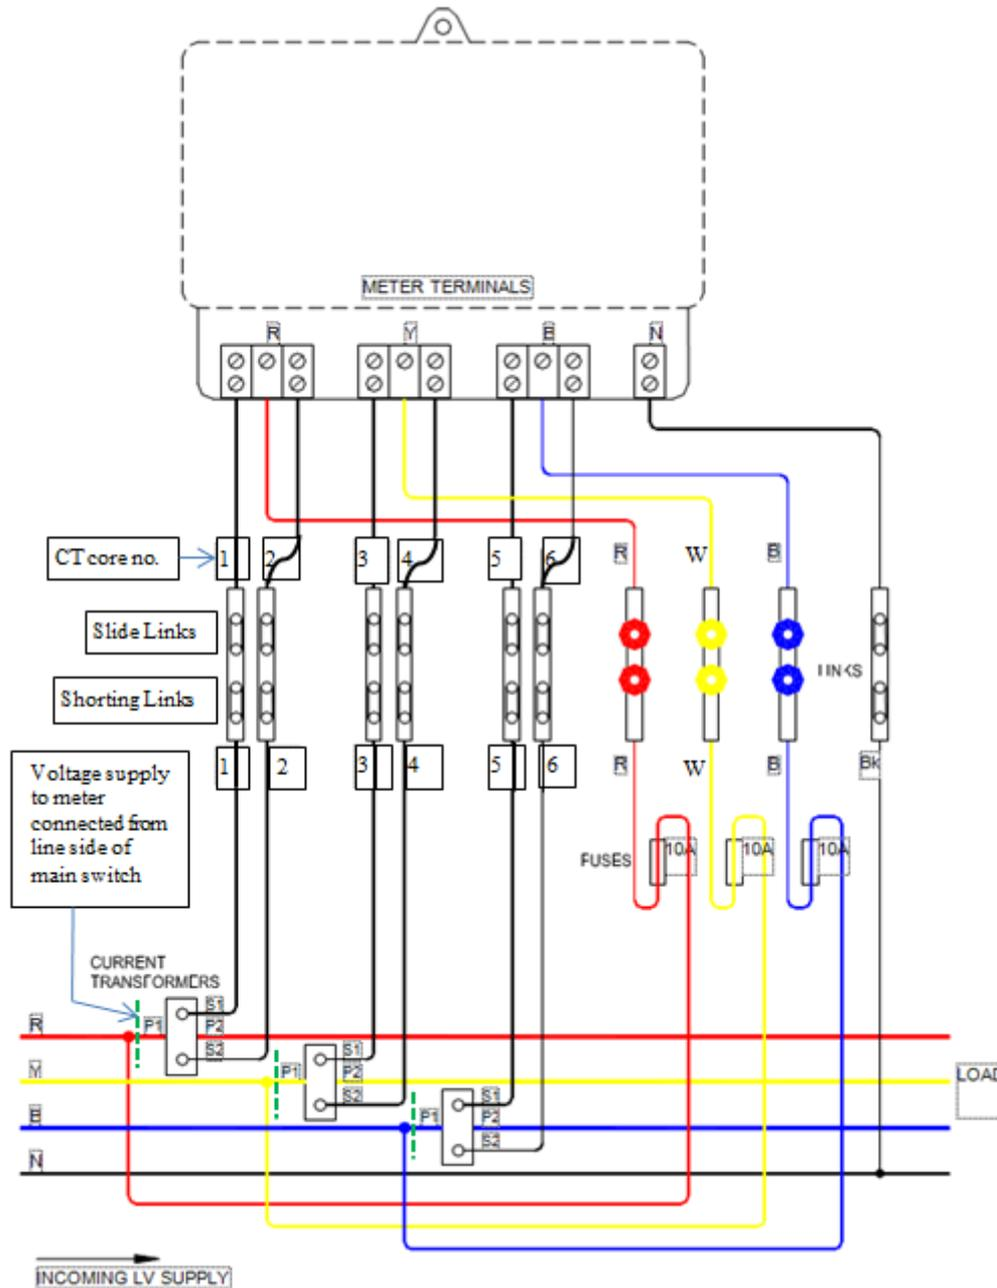

Figure 5 Wiring diagram for low voltage CT metering
- M (main) and red dot indicate line side of transformer. M is equivalent to S1 in Figure 5.
- L indicates load side and equivalent to S2 in Figure 5.